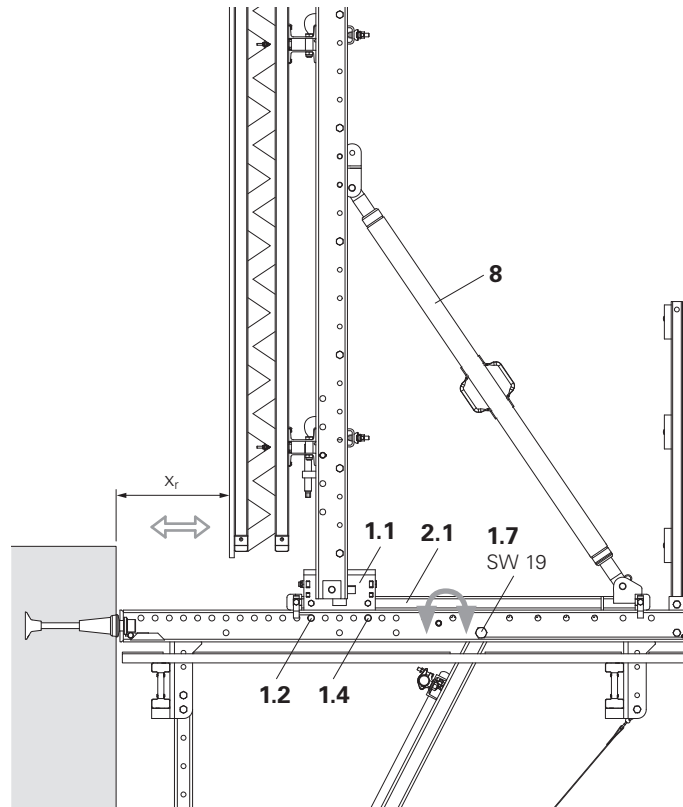

Fig. A4.05
- Secure Fitting Pins with cotter pins. (Fig. A4.05)